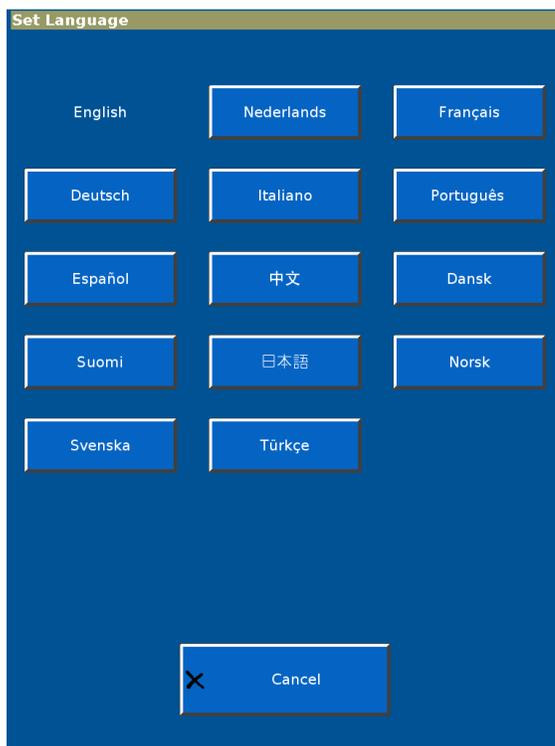

Figure E-3: Set Language screen 1
1. From the **System Settings** screen, select **Language** to display the **Set Language** screen (Figure E-3).